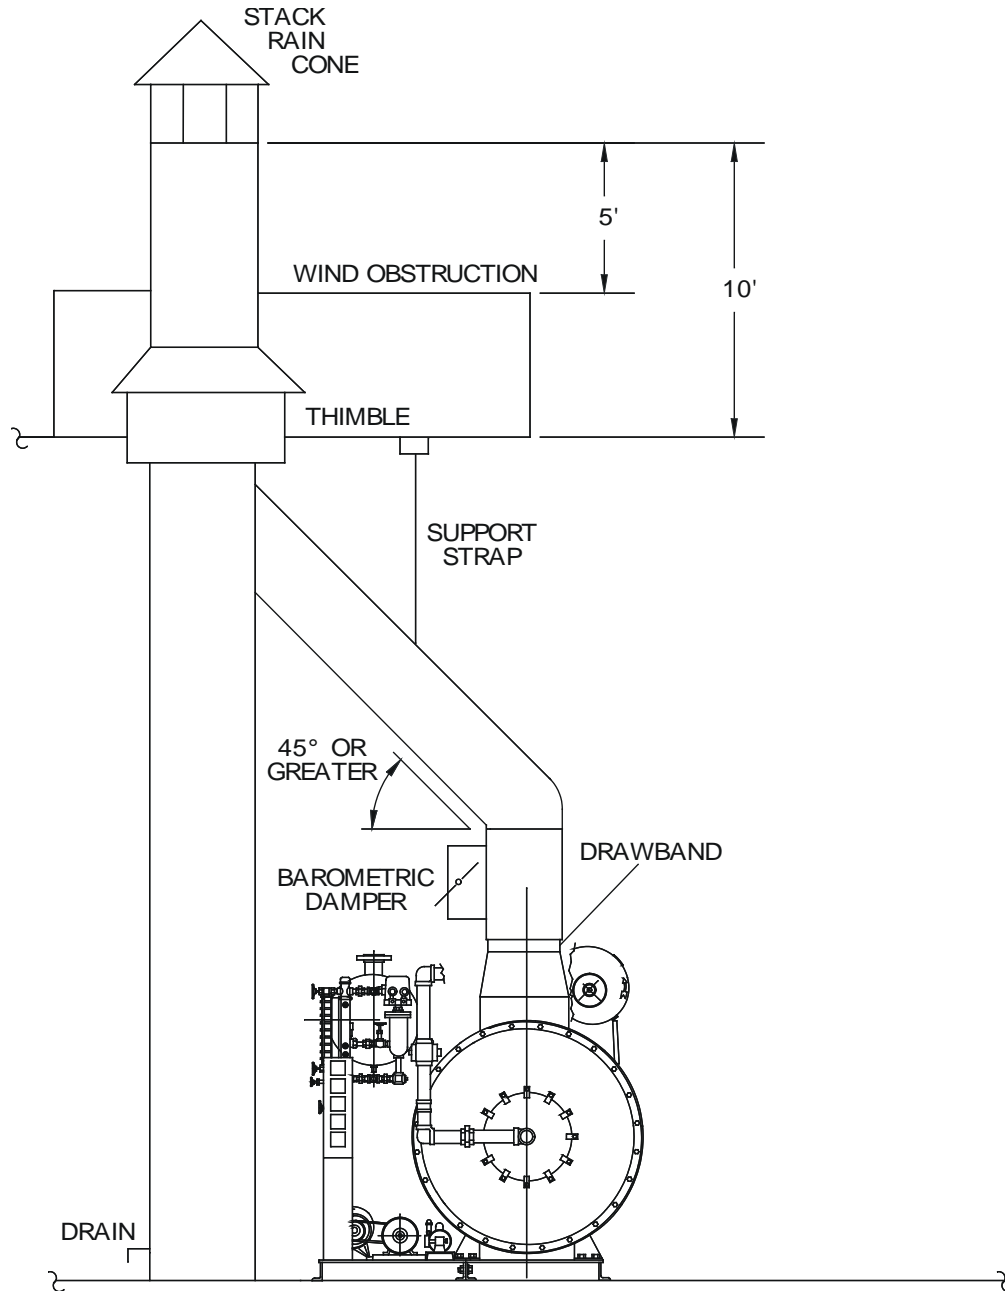

Figure 5. Recommended Stack Installation
- 7.6** The best stack installation is one that is supported independent of the boiler and run straight up to the outside with drainage provided at the bottom. The boiler connecting stack is then brought into the main stack not less than 45° above horizontal. All stacks should be at least 5 feet above any wind obstructions and not less than 10 feet above the roof (see Figure 5). The next best stack installation is one which is vertical directly up from the boiler that is supported independent of the boiler also.
- 7.9** The stack should be designed with the required bracing, or hangers to be self-supporting. (See Figure 5.) A section of the stack should be removable to permit inspection for corrosion and soot buildup. An inspection door or panel may be inserted if removal of a section of the stack will be difficult. The minimum recommended material thickness for stacks and breeching is 14 gauge.